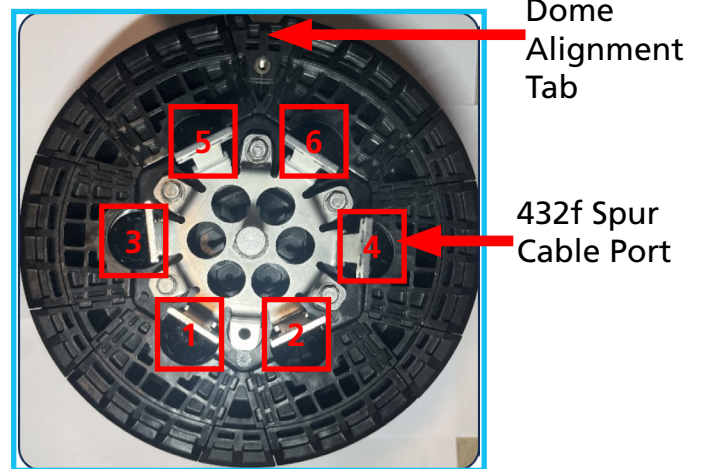

Figure 11.2
1. Install the 432f spur cable using cable port 4 following the standard cable installation procedure [figure 11.2].